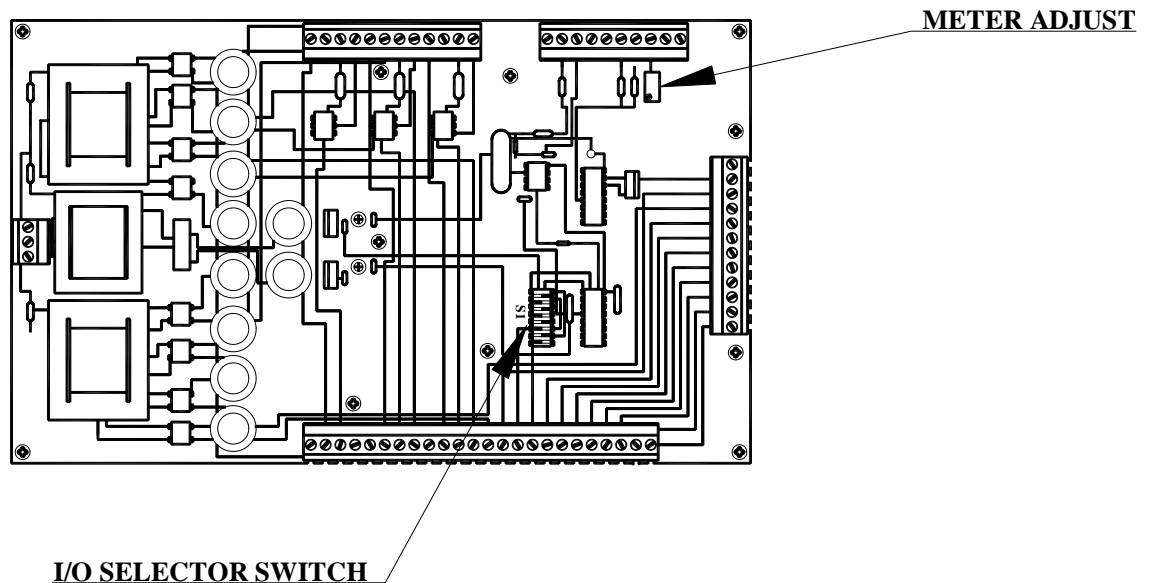

Figure 3.8-3 Remote Probe Controller Electronics
- E) Check the front panel O2 meter and adjust the meter, adjust potentiometer R2 on the interface board, if necessary, to the correct meter reading (please see Figure 3.8-3, below). Use the following formula to calculate the correct meter reading: